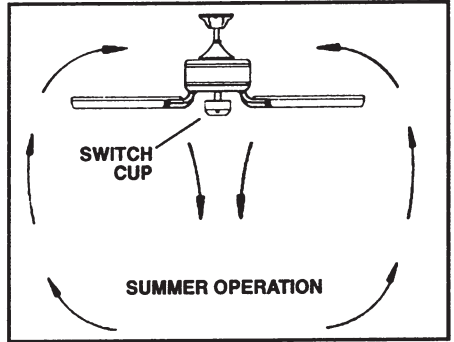

FIG. 18
**Warm weather** – (Counter Clockwise) A downward air flow creates a cooling effect as shown in Figure 18. This allows you to set your air conditioner on a warmer setting without affecting your comfort.